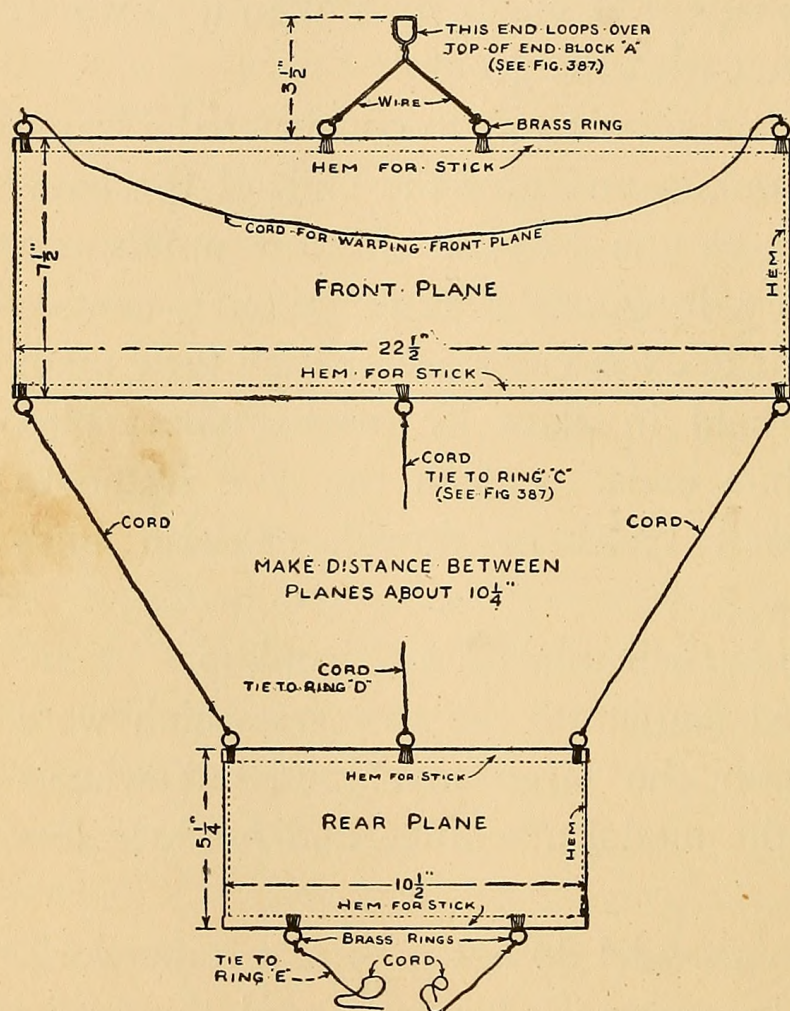

FIG. 390. — Pattern for Planes and Connections for Monoplane Model shown in Fig. 386.
**The Planes** for this model do not require a framework. Only two sticks are necessary for each, and these slip through the hems sewed on the edges of the covering (Fig. 390). Silk should be used for the covering of the planes, and, if your mother hasn't any scraps large enough in her scrap-bag, you can buy enough for the two planes for 25 cents. If your mother or sister will do the necessary sewing on the sewing-machine, the rest of the work can be finished up very quickly; however,
to run the sticks into, and a narrow one along each narrow edge to keep the silk from raveling. The pattern (Fig. 390) shows the proper dimensions for the planes. The sticks may be whittled out of pine, but bamboo is lighter and stronger.
ten the ends of a piece of wire bent as shown in Fig. 390, with a loop in the end to fit over the top of block *A* of the center-pole. Attach a cord to the rings at the ends of the front plane, for *warping* the plane; connect the two planes about  $10\frac{1}{4}$  inches apart with cords tied to the end rings as shown; and tie a short piece of cord to each of the remaining rings by which to fasten the planes to rings *C*, *D*, and *E* on the center-pole. In attaching the planes to the center-pole, first slip the wire loop over the top of block *A* (Fig. 387), then pull the cords on the rear edge of the rear plane until the sticks in the front plane are bowed, and tie them to ring *E*; tie the cords on the center rings to rings *C* and *D* to keep the planes centered upon the center-pole.